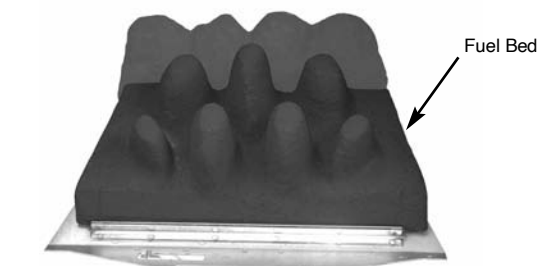

Fig. 18
2. Place the main fuel bed on to the middle section of the metal burner tray. It is important that the front edge of the fuel bed is located behind the burner strip (Fig. 18).